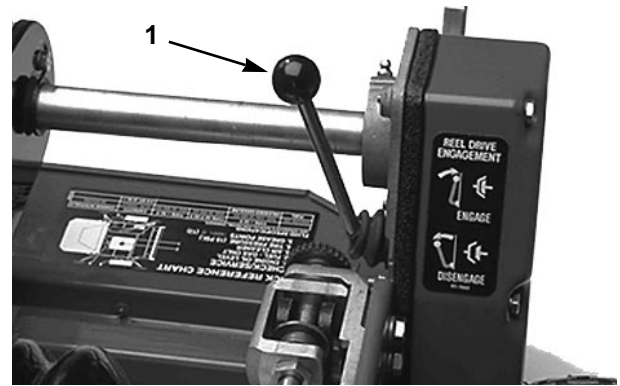

Fig. 14
**Reel Drive Engagement Lever** (Fig. 14)—Located on the right front corner of the machine. The lever has two positions: ENGAGE and DISENGAGE. Pull up on the lever to engage the reel or push down on the lever to disengage the reel.
1. Make sure the traction (Fig. 13) and reel drive (Fig. 14) levers are in the DISENGAGED position.